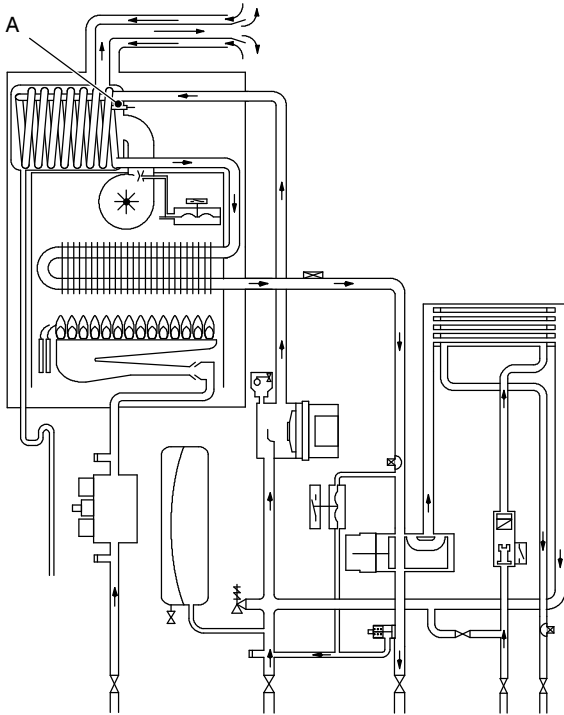
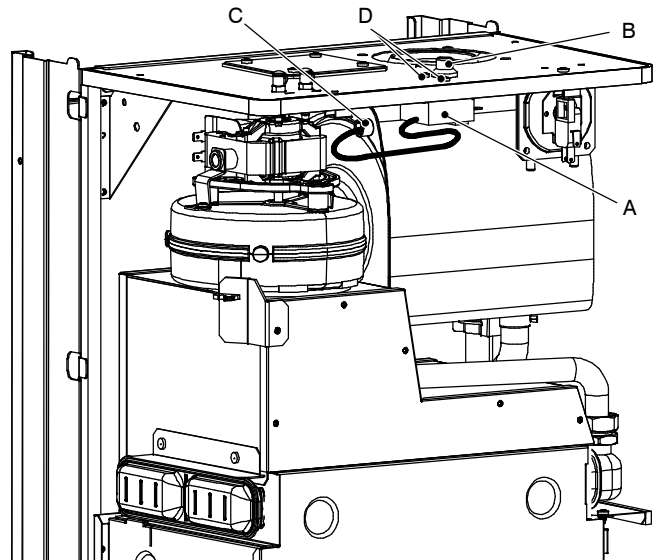

Fig. 80
Fig. 81
The Flue thermostat *A* in Fig. 80 and Fig. 81 senses the temperature of the combustion products that flow through the condensing heat exchanger.
The reset push-button is located on the top of the boiler under a protective cap *B* in Fig. 81 and can be reached by unscrewing the cap.
- 3 Unscrew and remove the thermostat probe *C* (Fig. 81) from the condensing heat exchanger.